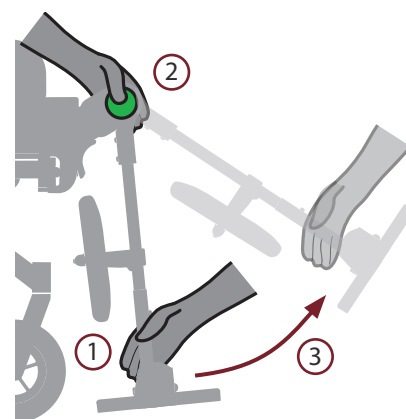

Figure 24. Angling of leg rest
- Grip the leg rest tube at the bottom (1 in Figure 24). Lift slightly to ease the pressure on the locking mechanism.
- Push button on the outside of the knee joint (2) and move the leg rest to the desired position (3).